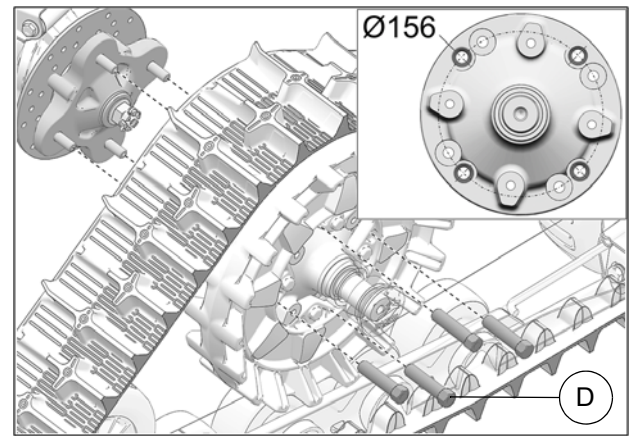

Fig. 28
11. Secure undercarriage to front hub using the provided M12 lug nuts (D). Use bolt circle Ø156mm. See Fig. 28